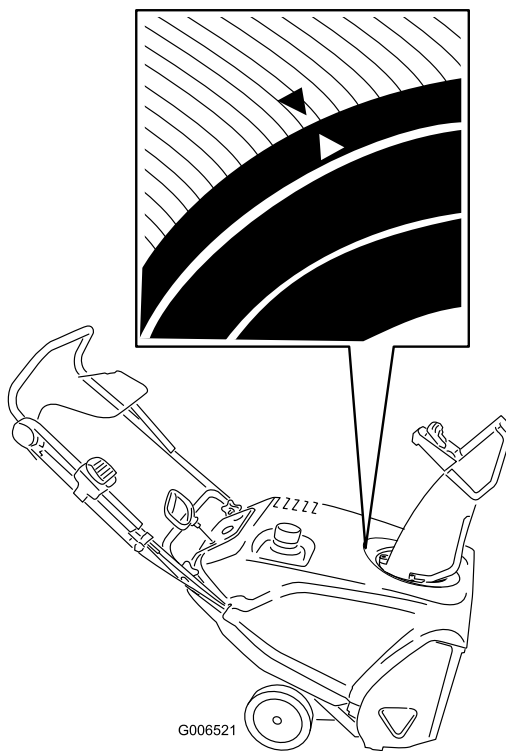

Figure 43
3. Rotate the discharge chute so that it faces straight ahead and the arrow on the back of the discharge chute aligns with the arrow on the shroud (Figure 43).